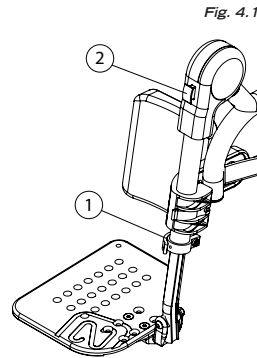

Fig. 4.1
- Install the elevating legrest (Fig. 4.1) the same way to install a regular front rigging, see section 9.3.1.
- To change the legrest length, pull on the lever (1) to open the clamp
- Change the length and push on the lever (1) to close the clamp.
- To change the legrest angle, set the desired angle while pushing on the red button (2).